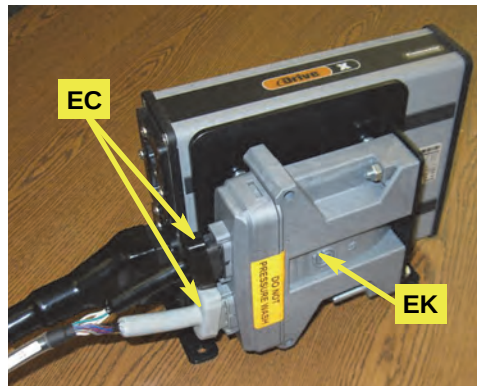

Figure 2a: Steering controller main cables connected at controller
- a. Attach steering controller cable **EC**'s two 12-pin plugs to the corresponding gray and black connectors on the steering controller **EK** (Figure 2a).